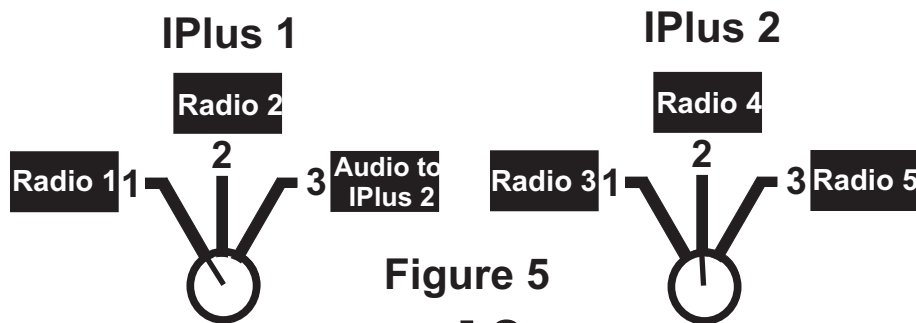

Figure 5
Tables 1 and 2 show which radios are selected as a function of the position of the Output Select (1) rotary switches. Figure 5 shows how the Output Select (1) switches may be labeled to indicate which radio is being selected.